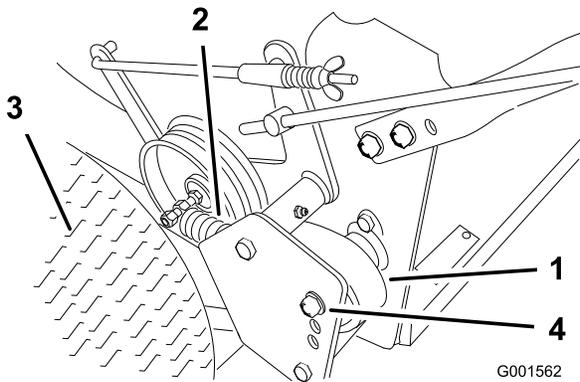

Figure 37
1. Remove the hairpin cotter securing the brake rod to the brake arm to relax the belt idler tension (Figure 37).
2. Remove the bottom bolt and loosen the top bolt of the shield to rotate it for belt clearance (Figure 37).
3. Lift the belt past the idler and off the drive pulley (Figure 37).
6. Secure the shield with the previously removed bolt, and tighten the bolts (Figure 37).
7. Secure the brake rod to the brake arm with the hairpin cotter (Figure 37).